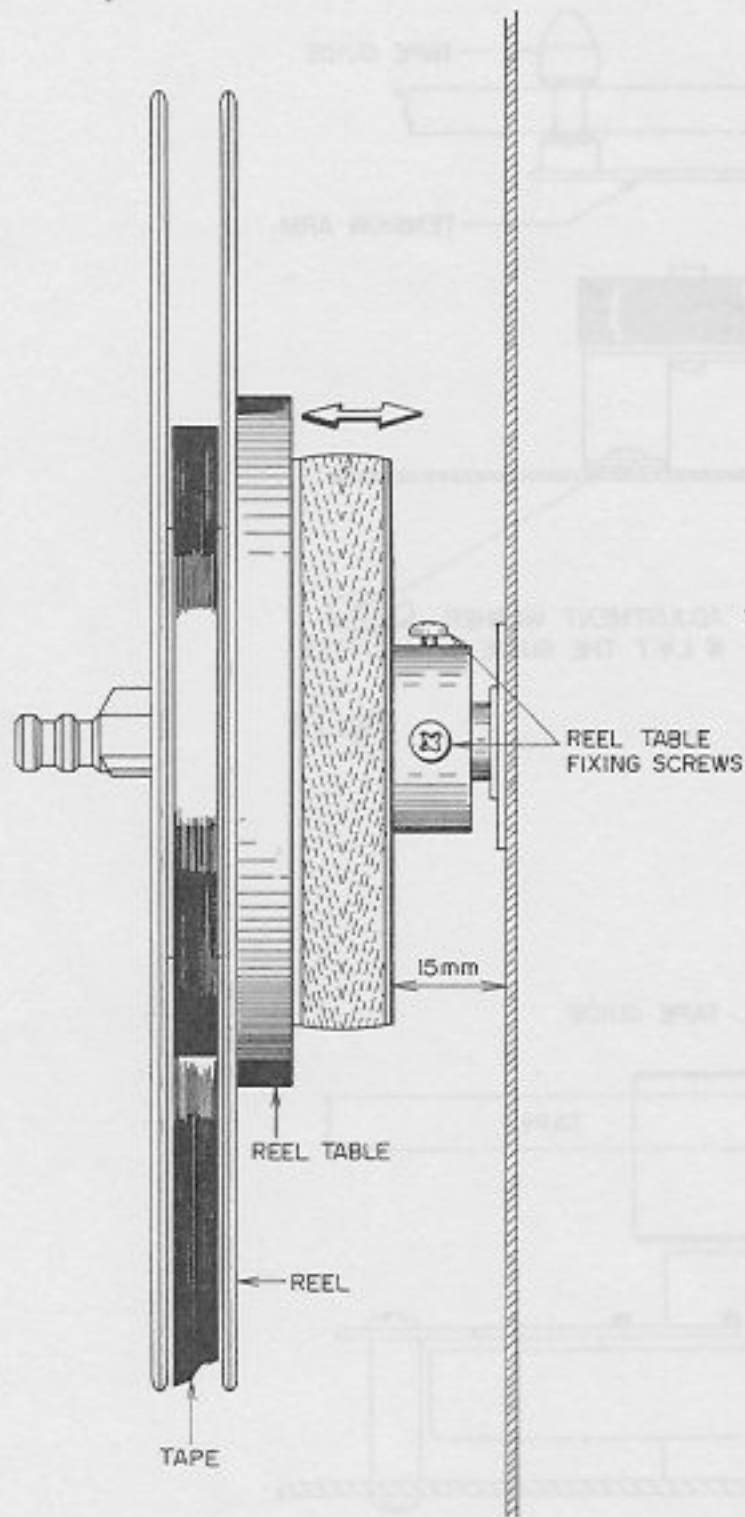

Fig. 12
2. REEL TABLE HEIGHT ADJUSTMENT (Refer to Fig. 12)